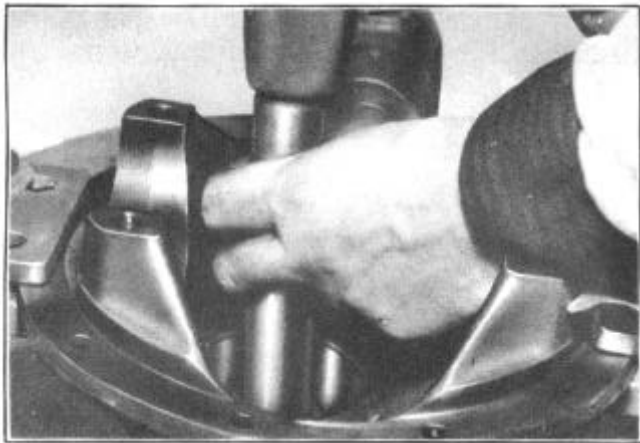
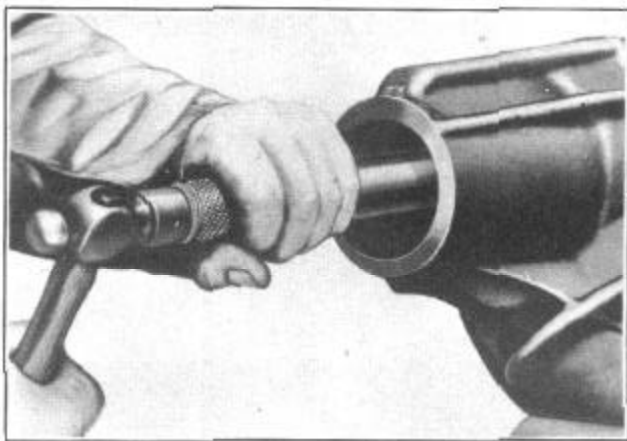

FIGURE. 21
FIGURE 22
6. Remove front and rear drive pinion bearing cups from differential carrier, using remover J-2644 for front cup, Figure 21, and J-2645 for rear cup with handle J-872-5, Figure 22.